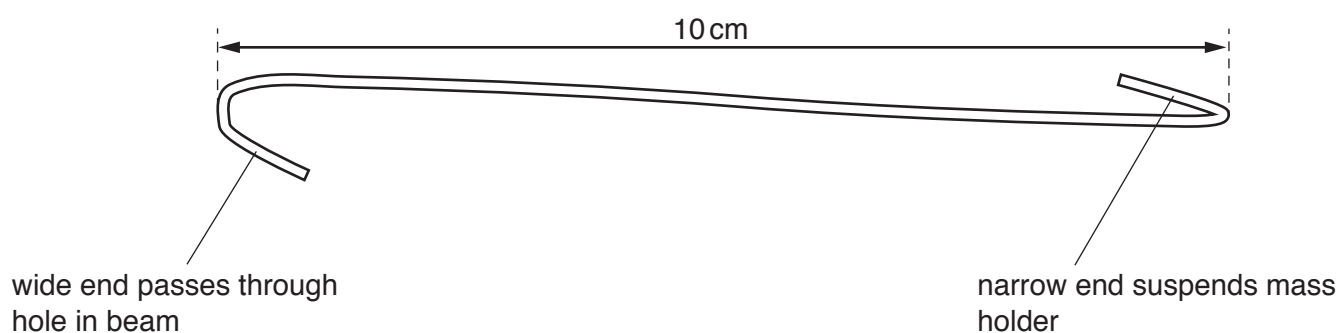

Fig. 3.5
4. Candidates will use the wire hook to suspend the 200g mass from the L-shaped beam. A suitable hook may be made using a large steel paper clip, as shown in Fig. 3.5. It must be possible to suspend a 200g mass from one end of the wire hook.